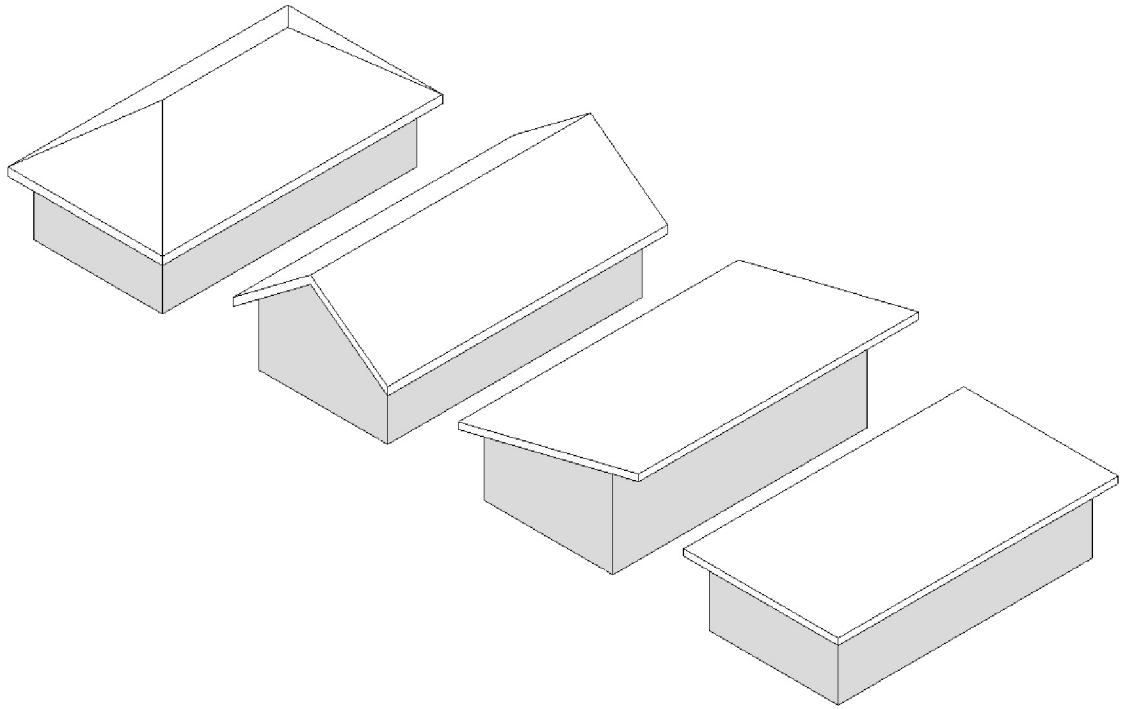

FIGURE 7-1.14 Default 3D view – flat roof
55. Also, take a look the *Default 3D view* (Figure 7-1.14).